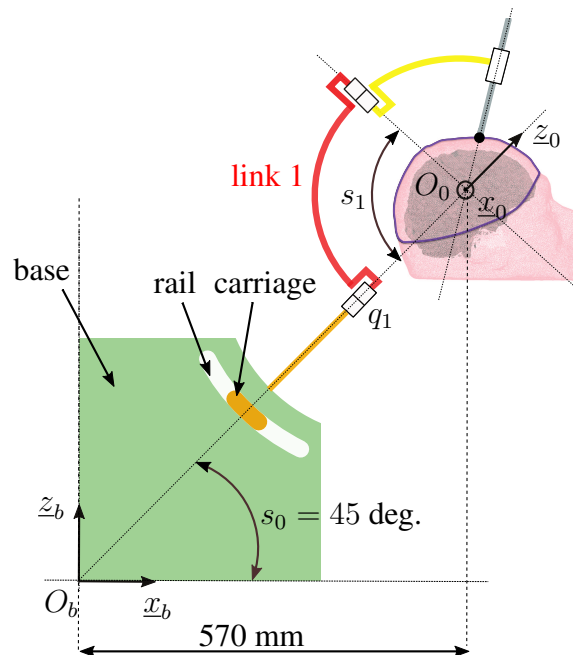

Figure 2: Supporting structure in a planar (sagittal) configuration.
The supporting structure can be placed in different configurations, as it is mounted on a carriage that can translate on a circular rail. Figure 2 represents this system in a planar sagittal view.
Let $\mathcal{F}_0 = (O_0, \underline{x}_0, \underline{y}_0, \underline{z}_0)$ and $\mathcal{F}_b = (O_b, \underline{x}_b, \underline{y}_b, \underline{z}_b)$ denote the head and robot base reference frames, respectively. The other notations, in particular the problem parameters or numerical values, are defined in Figure 2. Note that \underline{y} axes are not represented, as usual in robotics modeling.
- 3 Looking now at Figure 2, propose a similar parameterization to define link 1, in \mathcal{F}_0 .